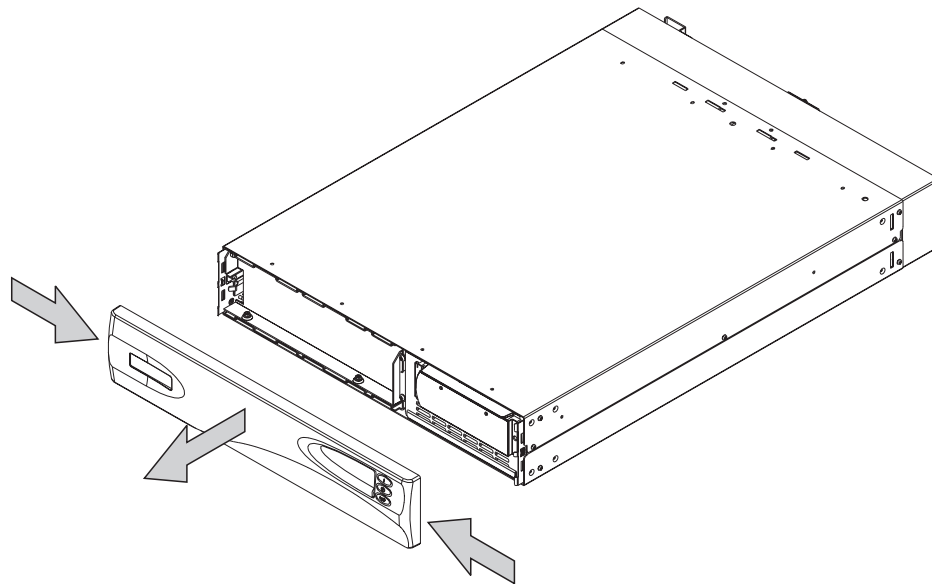

Figure 272. Removing the 2145 UPS front panel
2. Remove the front panel by pressing the sides inward, and pulling on both ends towards you, as shown in Figure 272.